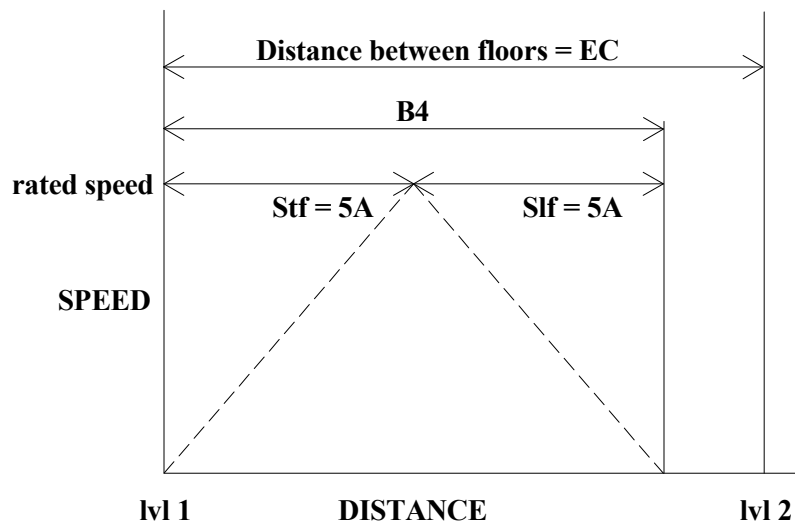

Fig 6a. (Ref. TurboCad – Pulse Graphs)
As shown in Fig 6a, B4 is less than EC, which means the processor will calculate that the full speed relay **can** be picked for a run between level 1 and 2. Ie, rated (max) speed is selected when $Stf + Slf (B4) <$ the commencing floor run hex value (EC).
As explained by Fig 6a, fast speed can be selected.